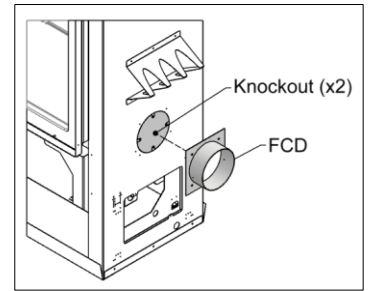

Figure 4-3: Astra Duo Knockout for Hot Air Distribution Kit (Both Sides)
1. Remove the 5" knockout from the either side of the fireplace (refer to Figure 4-3). **CAUTION: Only remove knockouts where air duct will be installed. Removing a knock-out without installing an air duct could compromise the safety of your fireplace.**
2. Install the fireplace duct connector (FCD - Item 3) on either side of the fireplace (Figure 4-3). Secure with the four metal screws.